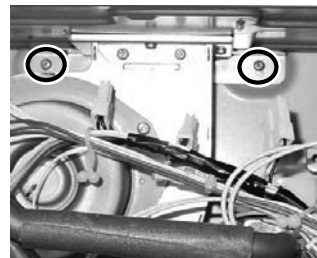

Figure 70 Bottom screws
13. Remove the 4 screws connecting the heat exchanger to the casing. (Figure 70)
20. Install the 4 screws at the top and bottom of the heat exchanger to the casing. (Figure 70)